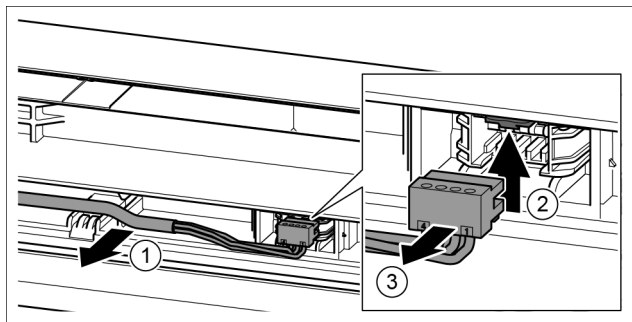

Fig. 19
- ▶ Carefully remove the grey cable from the guide in the door. Fig. 19 (1)
- ▶ Press the tab upwards. Fig. 19 (2)
- ▶ Carefully remove the plug. Fig. 19 (3)